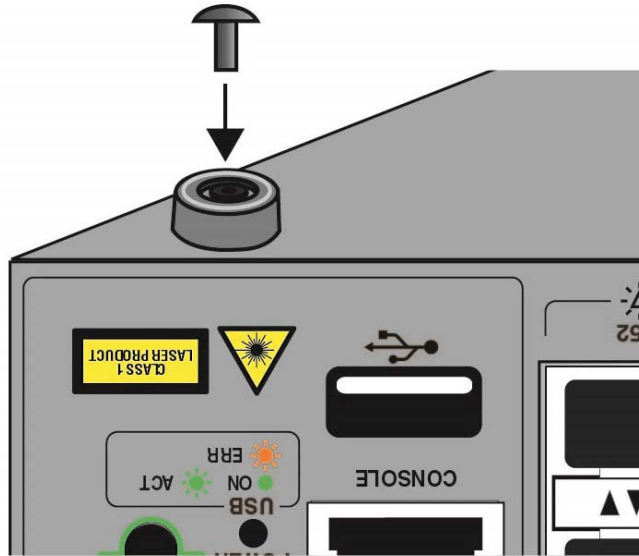

Figure 17. Inserting the Rivet into the Bumper Foot
- c. Insert the rivet to secure the bumper foot to the base. Refer to Figure 17 on page 49.